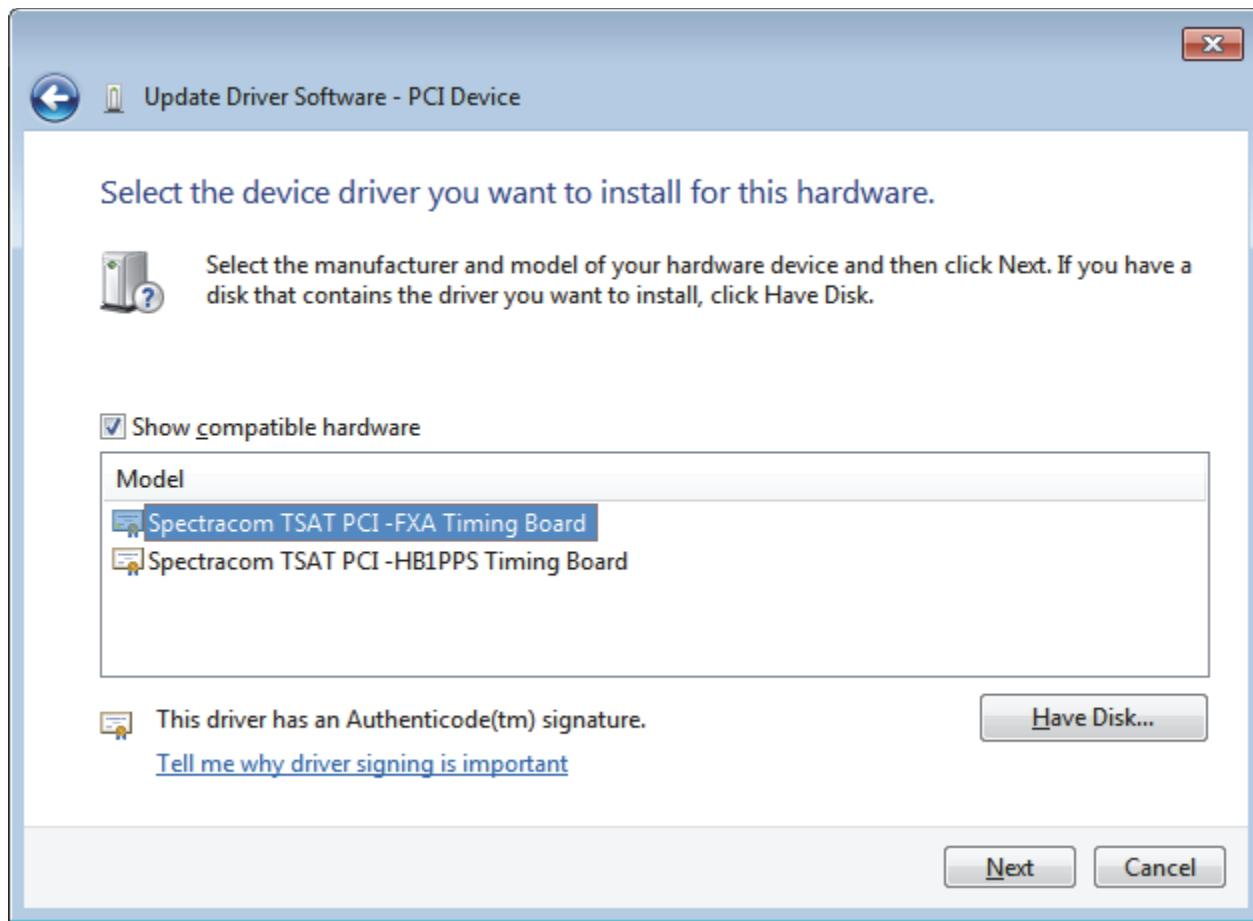

Figure 5-25. Select the Device Driver You Want to Install
10. Select the **Spectracom TSAT PCI-FXA Timing Board** and select **Next**. See Figure 5-25.